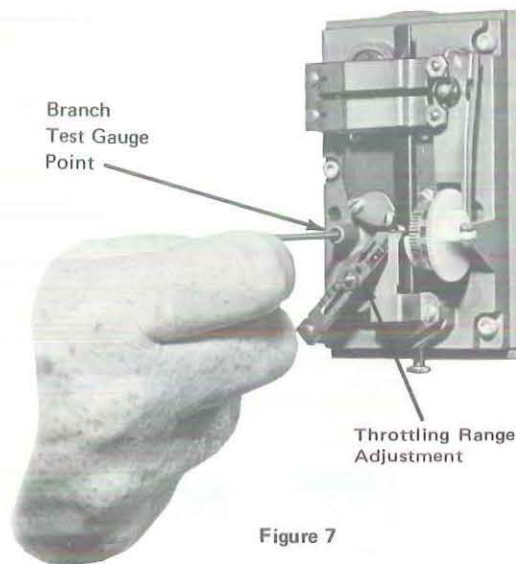

Figure 7
6. If the throttling range in Step 5 is not that desired, move the throttling range slider (Figure 7) in the appropriate direction and repeat Steps 2 through 5 until the desired throttling range is obtained.
2. Using a 5/64-inch Allen wrench, unscrew (counterclockwise rotation) the test point screw one full turn (Figure 7).